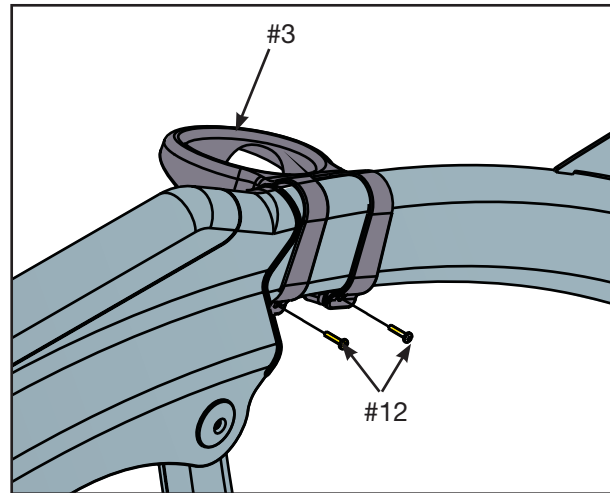

Figure 7
- C. Using a Phillips head screwdriver, attach the water bottle holder (#3) to the frame with the two 8-16 x 0.75 screws (#12). See Figure 7. **NOTE:** Do not overtighten.